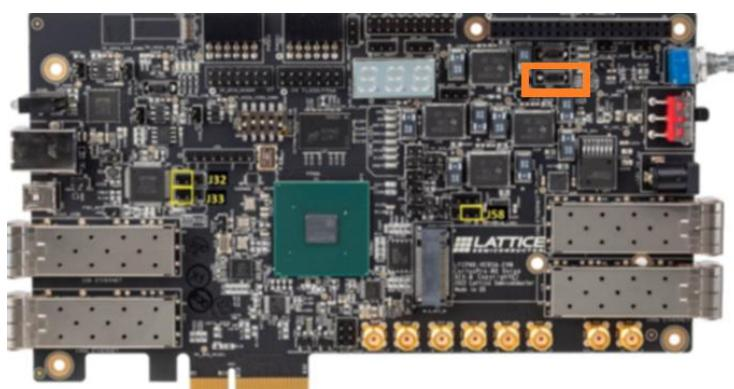

Figure 7.27. SW3 Reset Button
25. Press **SW3 Reset** button on the board as highlighted in Figure 7.27.